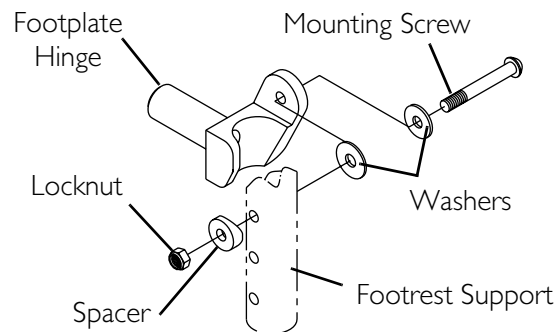

FIGURE 6.8 Installing Adjustable Angle Flip-up Footplate Hinge
NOTE: For this procedure, refer to FIGURE 6.8.
2. Position mounting screw, washers, spacer, and locknut on the footrest support as shown (FIGURE 6.8).